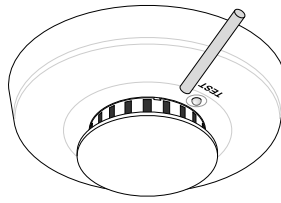

Figure 7. Testing the detector
1. Hold the test magnet up to the raised TEST letters on the top of the detector until alarm notification. See Figure 7. Once the test starts, remove the magnet. The alarm LED flashes one to nine times. The LED flashes every 3 seconds while in the test mode.